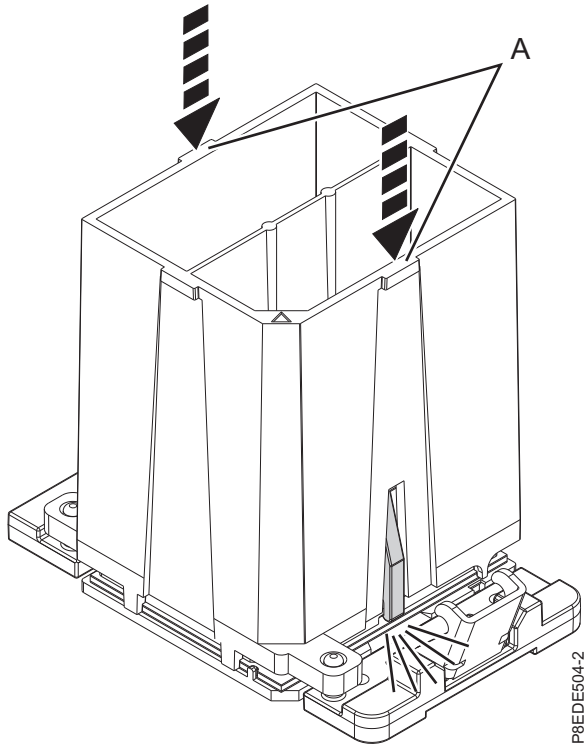

Figure 20. Locking the system processor module into the tool
- c. With the removal tool (A) sitting on top of the system processor module, push down on the tool to lock the system processor module into the tool, as shown in Figure 20 on page 23. Make sure that both of the tool jaws are locked on the system processor module. Do not press the blue release tabs until directed to do so later.